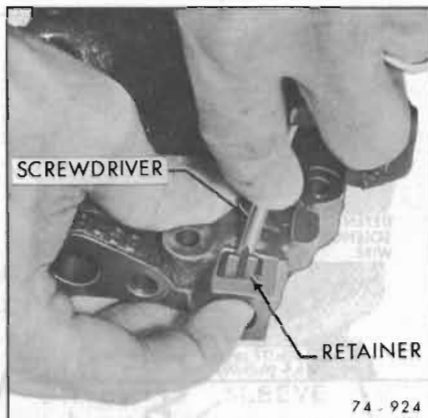

Figure 75-924—Removing Safety Valve Retainer
5. Depress safety valve spring with a small screwdriver. Remove retainer as shown in Figure 75-924. Remove spring and safety valve.